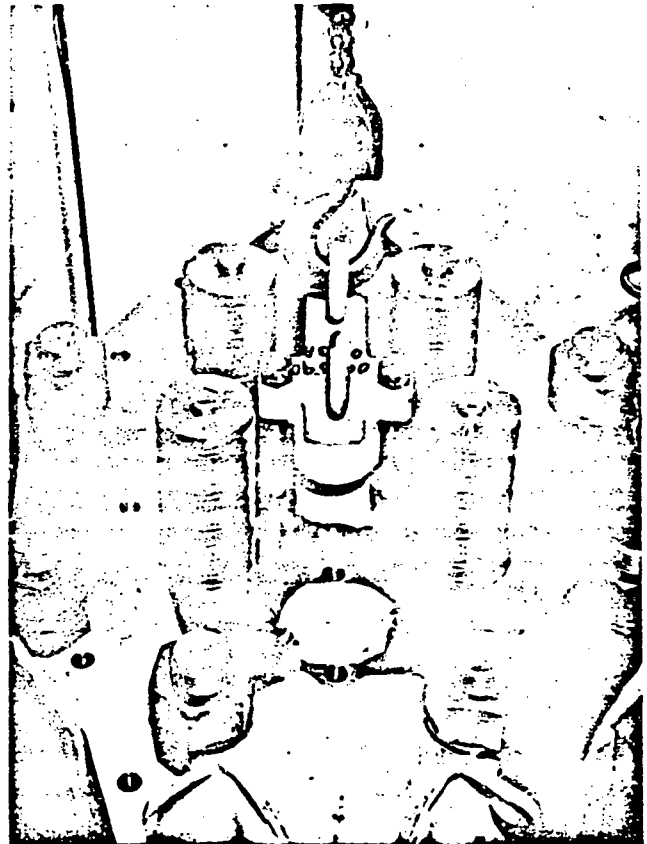

Figure 6-B-1. Cylinder Head Lifting Fixture
- i. Attach lifting fixture to the fuel injection studs as shown in Figure 6-B-1. Attach an overhead hoist to the lifting ring of the fixture.